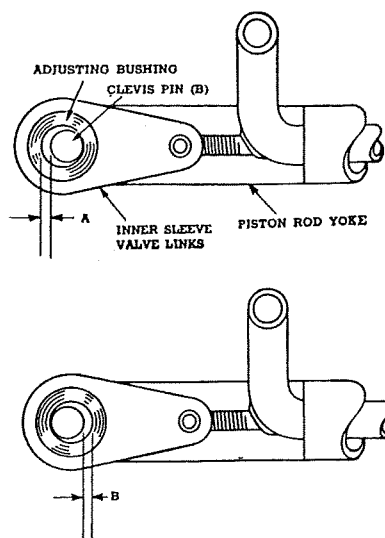

Fig. 20—Chevrolet 1939-42
rod yoke, and replace the clevis pin through the yoke and bushing. (5)—(See Fig. 20.) With the engine running to provide a source of vacuum, move the valve links away from the cylinder until all clearance between the adjusting bushing and the clevis pin is toward the front as indicated at "A"; in this position, the piston rod should move slowly outward. Now move the valve links toward the cylinder until all the clearance is toward the rear as shown at "B"; in this position, the piston rod should move slowly inward.